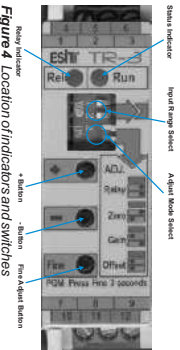

Figure 4 Location of indicators and switches
**Step 1 - Select input range:** After the connections are made, first select the input range using the DIP switches (See Figure 4 and Figure 5).